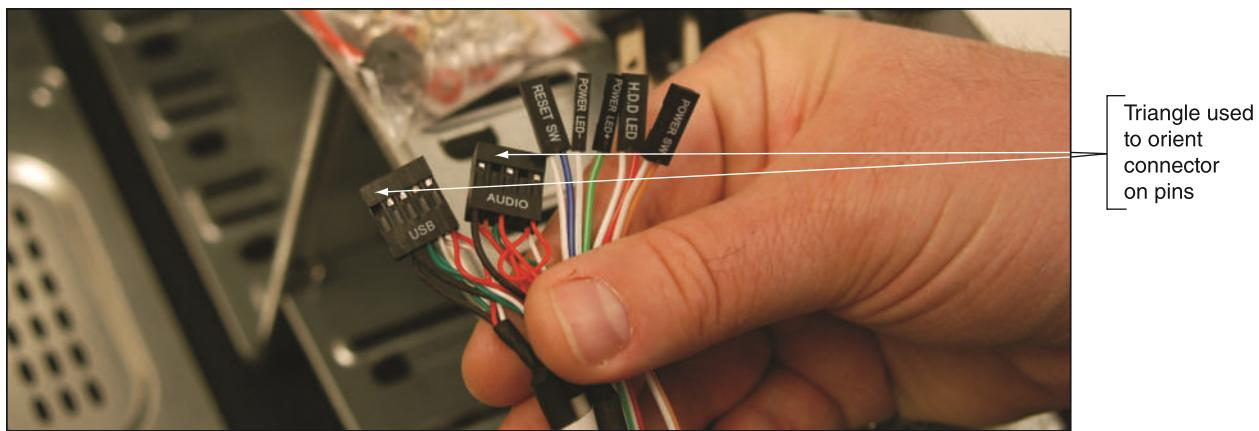
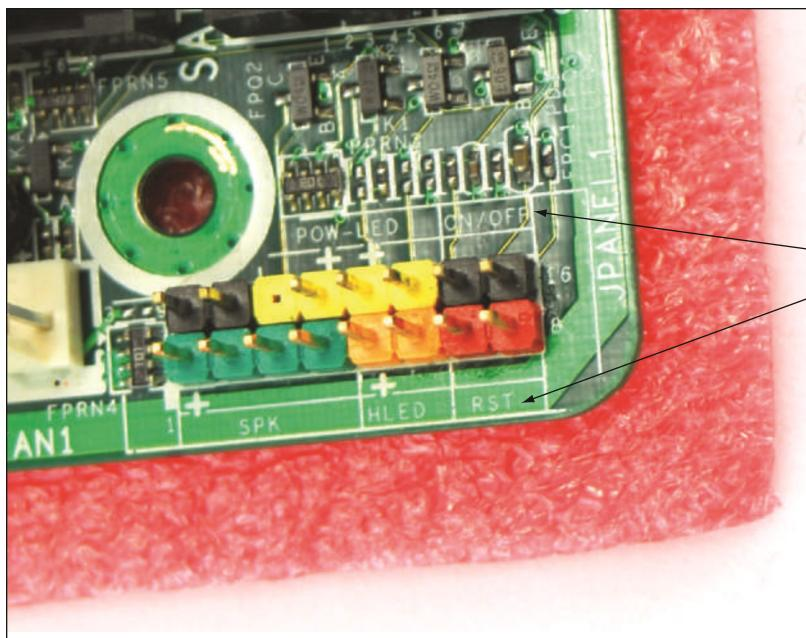

Figure 2-27 Seven connectors from the front panel connect to the motherboard
Figure 2-28 Front panel header uses color-coded pins and labels
4. Connect the wire leads from the front panel of the case to the front panel header on the motherboard. These are the wires for the switches, lights, and ports on the front or top of the computer. Because your case and your motherboard might not have been made by the same manufacturer, you need to pay close attention to the source of the wires to determine where they connect on the motherboard. For example, Figure 2-27 shows a computer case that has seven connectors from the front panel that connect to the motherboard. Figure 2-28 shows the front panel header on the motherboard for these lights and switches. If you look closely at the board in Figure 2-28, you can see labels identifying the pins.
The five smaller connectors on the right side of Figure 2-27 from right to left are labeled as follows:
To help orient the larger connectors on the motherboard pins, look for a small triangle embedded on the connector that marks one of the outside wires as pin 1 (see Figure 2-27). Look for pin 1 to be labeled on the motherboard as a small 1 embedded to either the right or the left of the group of pins. If the labels on the board are not clear, turn to the motherboard user guide for help. The diagram in Figure 2-29 shows what you can expect from one motherboard user guide. Notice pin 1 is identified as a square pin in the diagram, rather than round like the other pins.
5. Connect wires to ports on the front panel of the case. Depending on your motherboard and case, there might be cables to connect audio ports or USB ports on the front of the case to headers on the motherboard. Audio and USB connectors are the two left connectors shown in Figure 2-27. You can see these ports for audio and USB on the front of the case in Figure 2-31. Look in the motherboard documentation for the location of these connectors. The audio and USB connectors are labeled for one board in Figures 2-32(a) and (b).